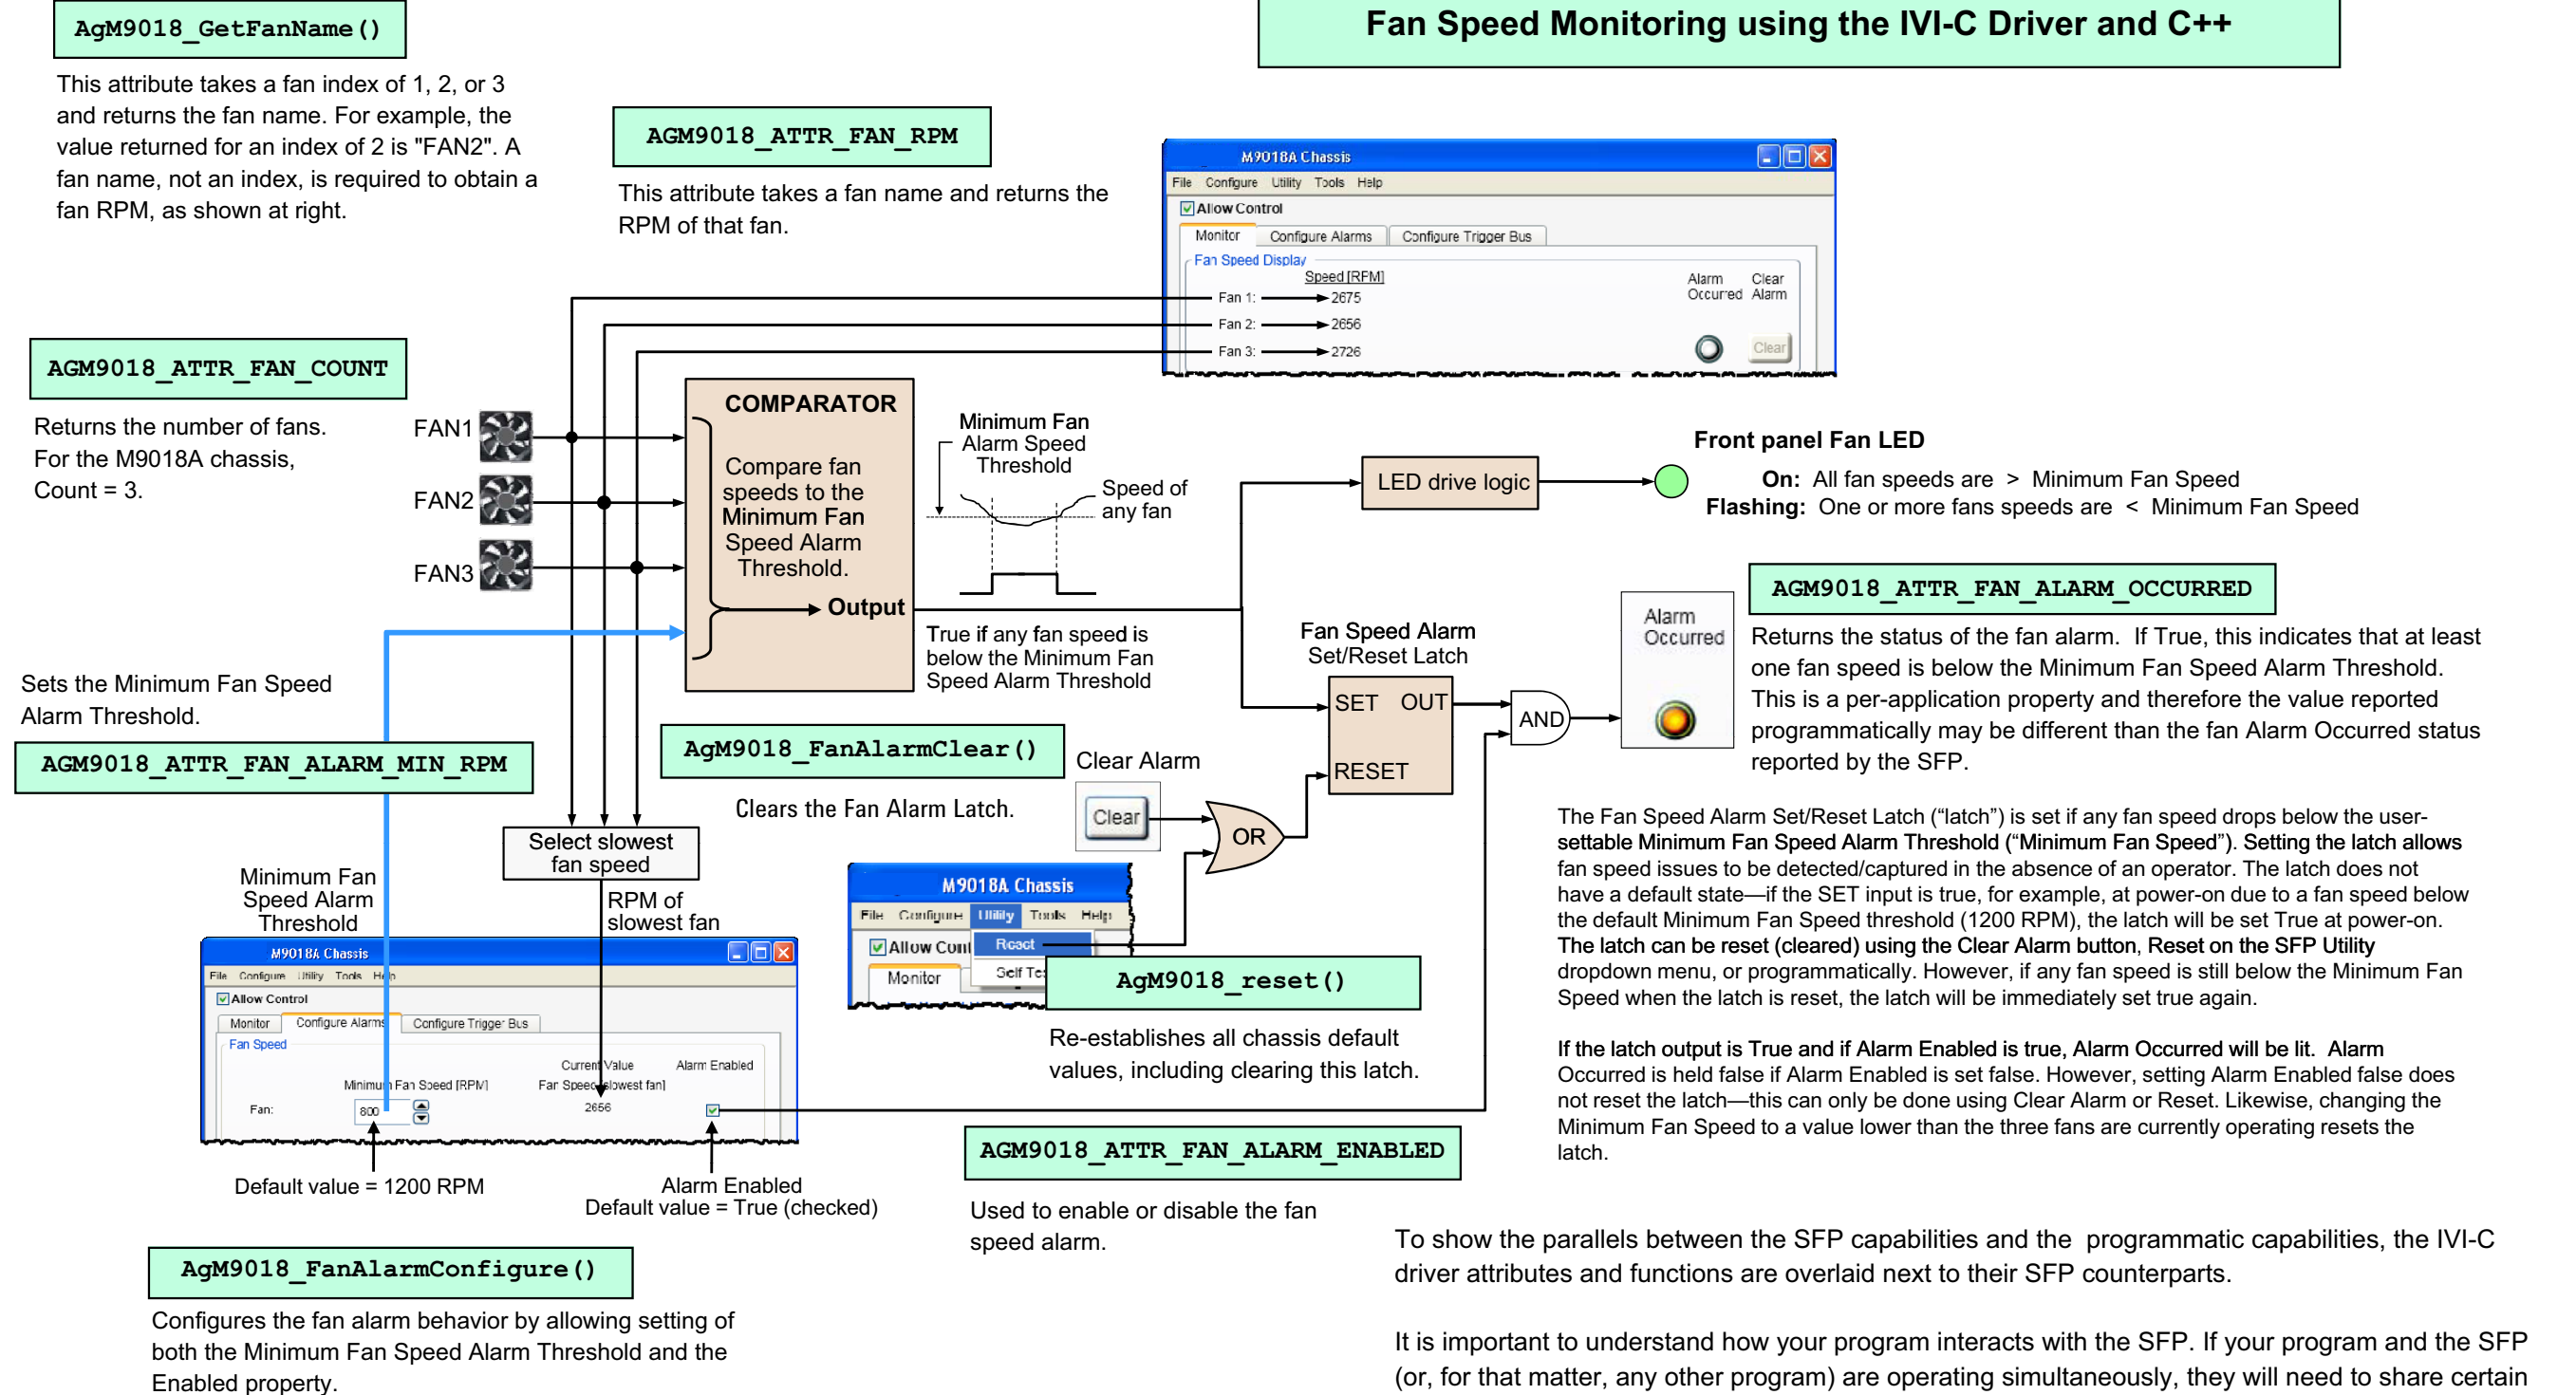

Figure 19 Fan speed monitoring using the IVI-C driver and C++
- IVI-C driver and C++ – Figure 19 on page 44